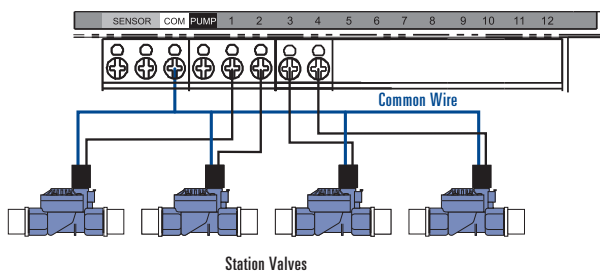

Figure 14: Connecting Sprinkler Wire
- Connect each sprinkler wire (excluding the "Common" wire) to a separate station terminal (numbered above each terminal screw) by inserting the bare wire fully into the hole under each terminal screw. [See Figure 14]